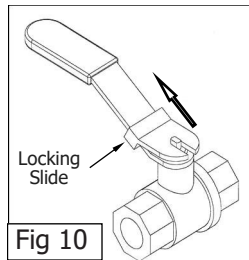

Fig 10
- a. Lift the locking slide on valve handle (Fig 10) to release valve.
- c. When valve is closed, locking slide will drop down over locking valve to prevent accidental opening of valve as shown in Fig.10.